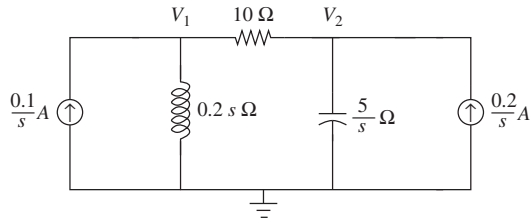

Figure P7.34 Two-loop circuit for problem P7-34.
- 7-34.** Consider the two-node circuit shown in Fig. P7.34. The voltages V_1 and V_2 (in volts) satisfy the following system of equations: